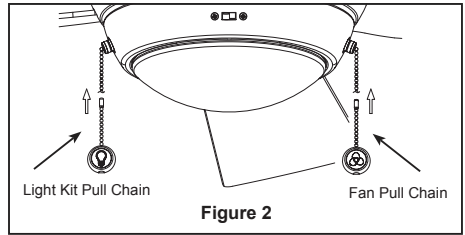

Figure 2
2. Install the fan pull chain and light kit pull chain. (Figure 2)